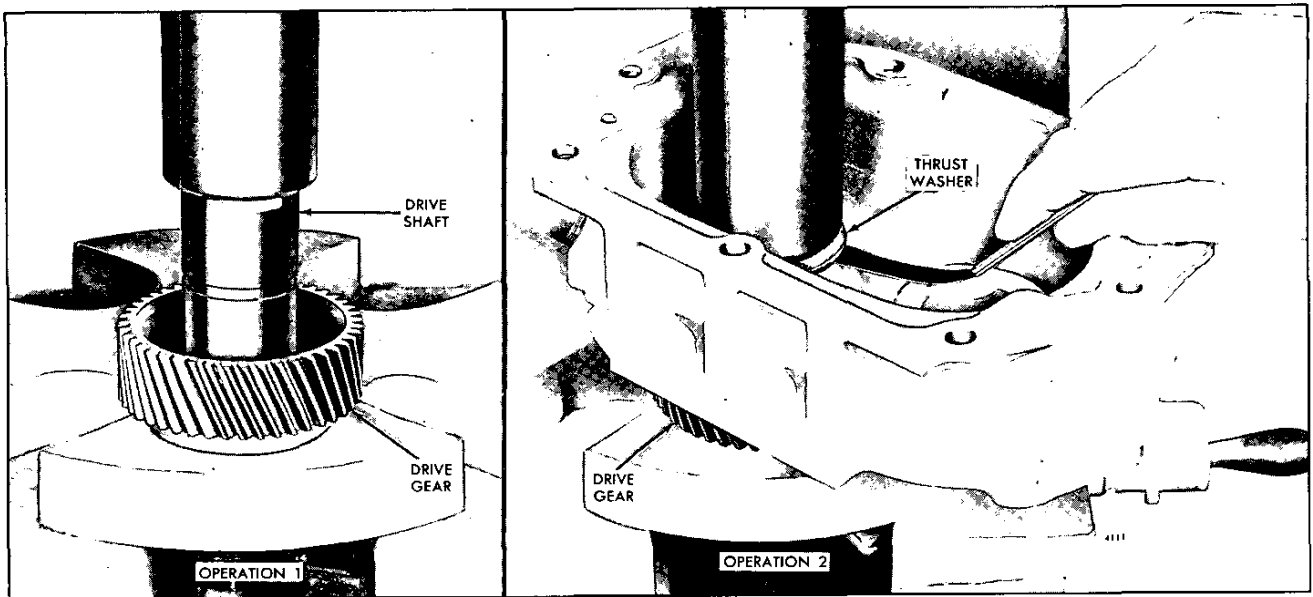

Fig. 8 – Installing Blower Drive Gear Shaft in Drive Gear
2. Place the blower drive gear and shaft on the bed of an arbor press (Fig. 8, Operation 1). Then, press the shaft straight into the drive gear approximately one half inch.
5. Support the blower drive gear, shaft and support on the bed of an arbor press (Fig. 8, Operation 2). Then,